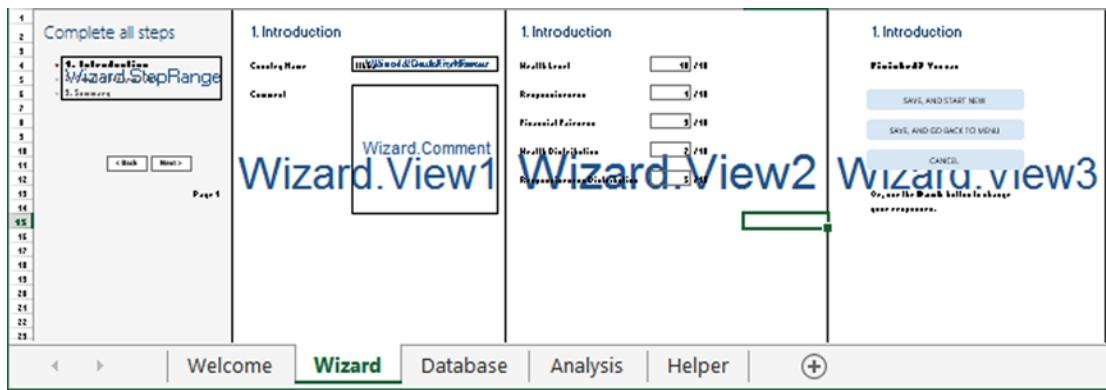

Figure 18-2. All the different views of your wizard
- **Welcome:** Welcome is essentially your menu. When the user first opens the spreadsheet, it's what they should see (think: "Welcome screen"). Figure 18-2 in the following section shows what the menu looks like.
The wizard used here has changed substantially from the previous chapter. In this section, I'll talk about some of those changes in design plus additional design enhancements. Figure 18-2 shows what your wizard looks like with all columns unhidden and zoomed out.